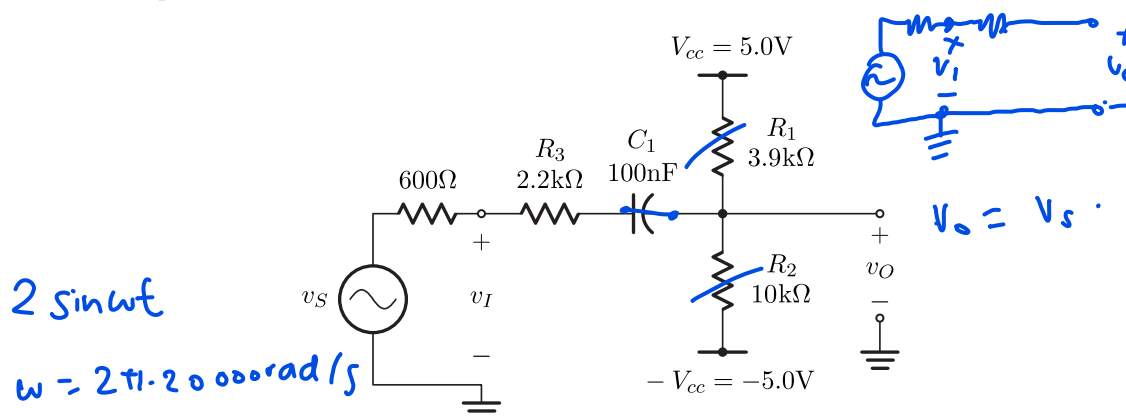
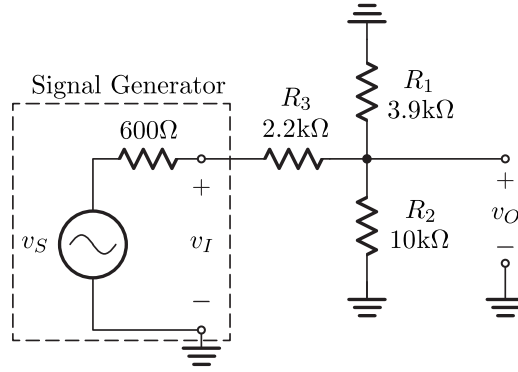
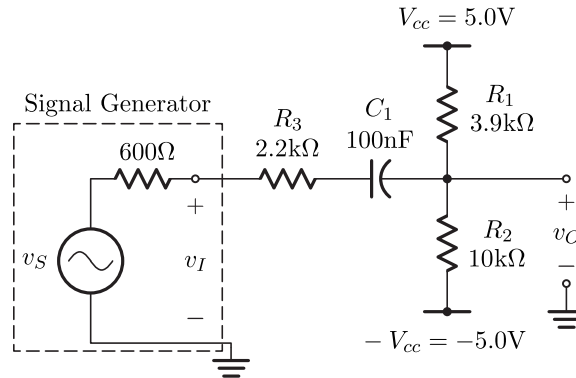

Figure 1: A circuit involving both AC and DC voltages.
Figure 4: Circuit for Step **E2**.
Figure 5: Circuit for Step **E3**.
**P1.** Consider the circuit of Figure 1. Assume that the capacitor is short for AC signals and open for DC signals. Also, assume that voltage  $v_S$  in Figure 1 is a  $20\text{-kHz}$  sinusoid with a peak-to-peak swing of  $4V$  (or, equivalently, with an rms value of  $1.41V$ ). Thus, let  $v_S(t) = 2\sin\omega t$  where  $\omega = 2\pi \times 20,000\text{ rad/s}$ . Then, use the “superposition” principle to determine expressions for voltages  $v_I$  and  $v_O$  (i.e., the time functions  $v_I(t)$  and  $v_O(t)$ ). Use Matlab or Excel to plot your expressions for  $v_I(t)$  and  $v_O(t)$ , for two cycles (periods). Also, complete Table 1 based on your calculations. Show all work.
Table 1: Voltage data corresponding to Figure 1.
**E2.** Modify the circuit to create the circuit in **Figure 4**. Make sure that you disconnect the DC power supply from the circuit, and connect the uncommon terminals of  $R_1$  and  $R_2$  (which were connected to the power supply lines  $V_{cc}$  and  $-V_{cc}$ ) to the ground by two short wires. Also, before inserting  $R_3$  into the circuit, make sure that the amplitude( $4V$ ) and frequency( $20kHz$ ) of  $v_I$  have not changed. Once  $R_3$  has been inserted, the amplitude is expected to change.
**E3.** Change the circuit of **Figure 4** to that of **Figure 5** and repeat **E2**. That is, reconnect the power supply lines to the circuit, remove  $R_3$ , and add  $C_1$ . Once again, ensure that  $v_I$  has the same peak-to-peak swing and frequency as **E1** (i.e.,  $4V$  and  $20kHz$ ). Capture the waveforms of  $v_I$  and  $v_O$
Table 3: Experimental voltage measurements corresponding to Figure 4.
Table 4: Experimental voltage measurements corresponding to Figure 5.
**C3.** Using Multisim (or any other suitable circuit simulation software) simulate the circuit shown in Figure 1 (which is the same circuit shown in Figure 5), based on the assumption that the voltage  $v_S$  is a  $20\text{-kHz}$  sinusoidal signal with a peak-to-peak swing of  $4V$ . Include the simulation waveforms for  $v_S$ ,  $v_I$ , and  $v_O$ , all plotted and clearly labelled in one single frame. Additionally, include a screenshot of the circuit schematic that you simulated. Comment on the waveforms obtained from the simulation with those of Graph E3. Are they the same? Are they different? How so?
Table 6: Experimental voltage measurements corresponding to Figure 4.
Table 7: Experimental voltage measurements corresponding to Figure 5.